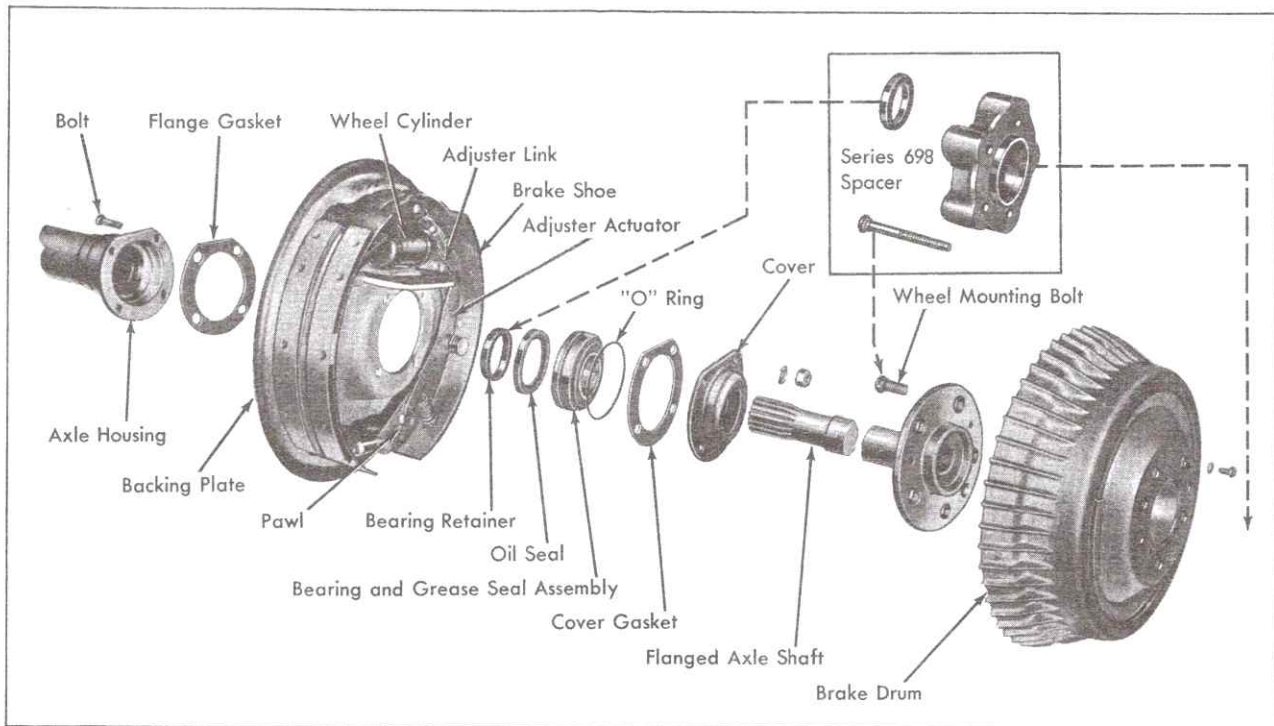

Fig. 4-29 Rear Wheel Disassembled
2. Remove four nuts and lockwashers that hold cover, gasket, and backing plate to rear axle housing, Fig. 4-29.